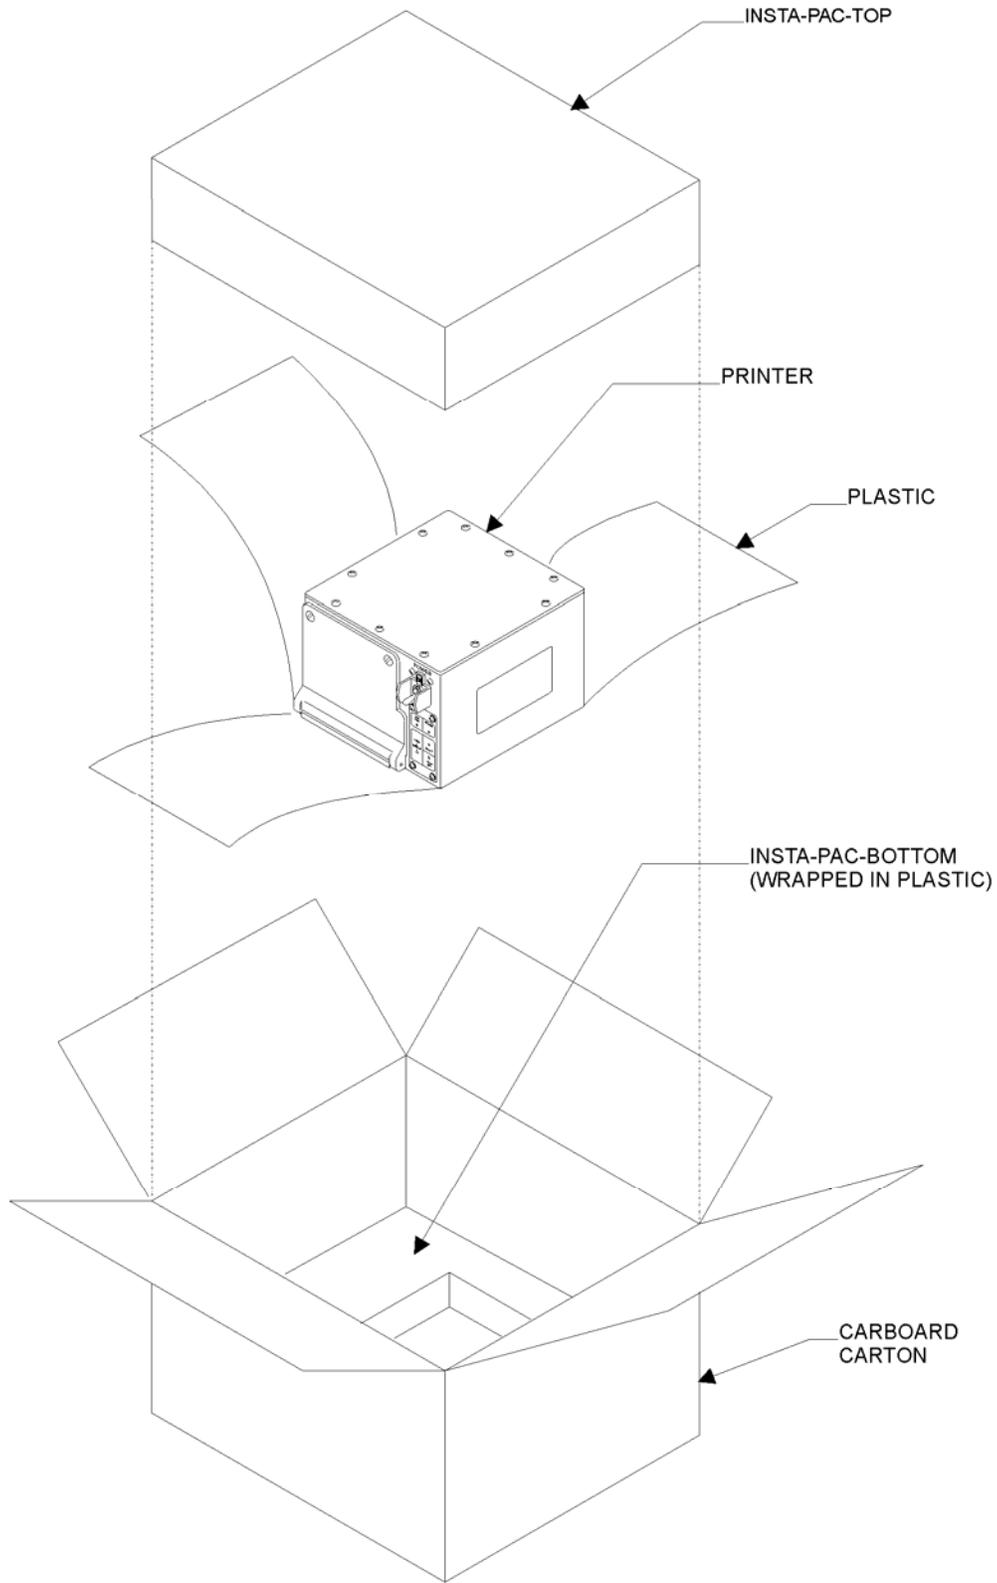

Figure 8-1. Packaging Printer for Reshipment
- Step 4. Remove paper from printer (Chapter 4, paragraph 4-3.2) and place in protective wrap for storage in cardboard carton (Figure 8-1).
- Step 7. Place printer with plastic wrap into cardboard carton, cushioned on all sides with foam packing or bubble pak (Figure 8-1).